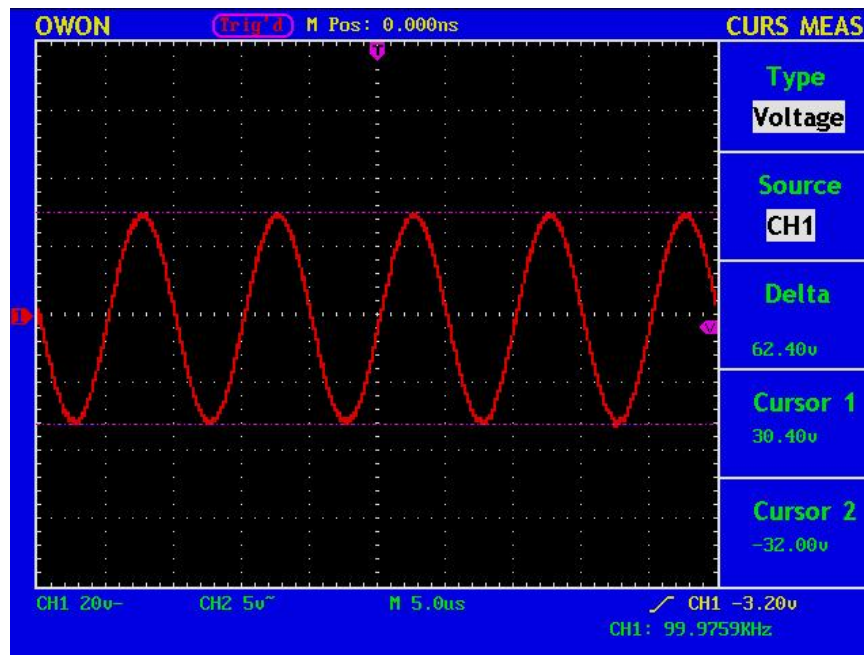

Fig. 71 Waveform of Voltage Cursor Measurement
4. Adjust the positions of **CURSOR1** and **CURSOR2** according to the measured waveform, with the absolute value of the voltage amplitude difference between Cursor 1 and Cursor 2 displayed in the increment window. The current position of Cursor1 is displayed in the Cursor1 window and that of Cursor2 is displayed in the Cursor2 window (see Fig.71).